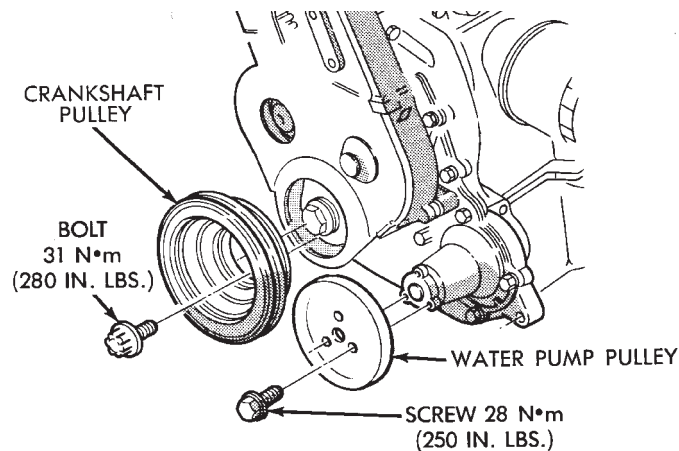

Fig. 3 Crankshaft and Water Pump Pulley
- (3) Remove screws retaining water pump pulley and bolts retaining crankshaft pulley (Fig. 3) and lay pulleys aside.
- (4) Remove nuts holding cover to cylinder head.